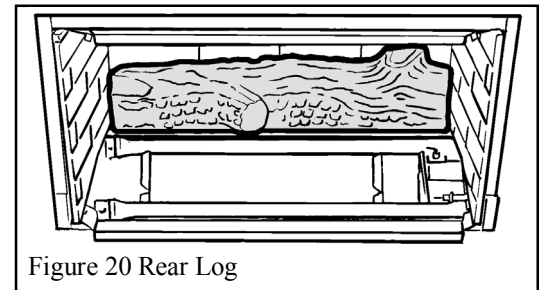

Figure 20 Rear Log
3. Place the rear log in the retaining cradle behind the rear burner rail. See figure 20.